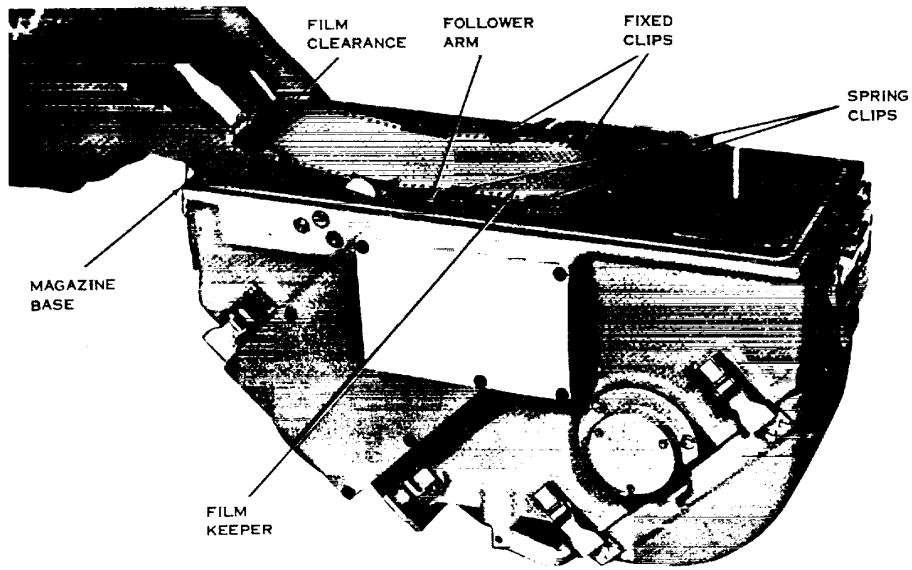

Figure 18. Checking Film Clearance, Subdued Light Procedures (5).
h. Fit the film edge under the film keeper fixed clips (fig. 18).